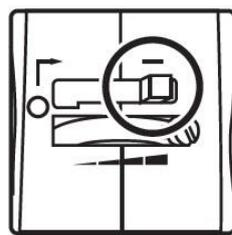

Fig.3
2. To ignite, turn the off/on switch to the "—" position. **(Fig. 3 & 4)**